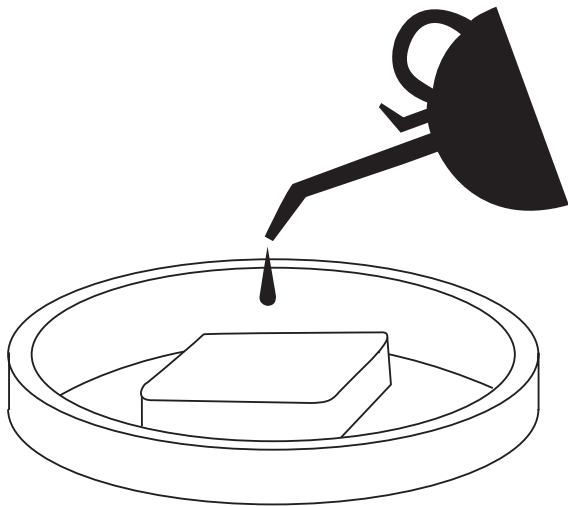

Figure 33
10. Once the air filters are dry, coat the air filters with clean engine oil (see Figure 33).